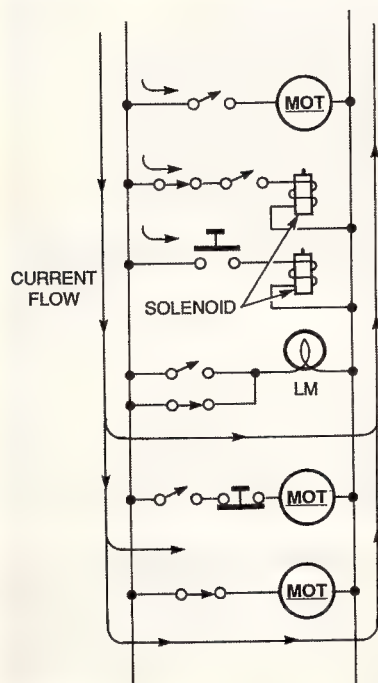

FIG. 4—CONVENTIONAL ELECTRONIC DIAGRAM of a ladder-logic diagram.
tation of process control has evolved. It is called a ladder logic diagram and is named for its resemblance to a ladder. It was derived from its predecessor diagram, called a relay logic diagram. Figure 4 is a typical relay logic diagram. If you follow the ladder from the top down (the normal direction of control flow), you can see how the various switches and relay contacts are evaluated (are they closed?). At the same time the corresponding controlled items, such as motors (M), lights (L), or solenoids (S), are commanded accordingly.
The PLC relay logic diagram (Fig. 4) translates into the PLC ladder logic diagram of Fig. 5. In both diagrams, the left-hand elements correspond to electrical contacts or switches. Normally closed switches, such as limit switches, are converted to parallel lines with a slash through them. Also, the rightmost elements in both illustrations represent the controlled items. When looking at the diagrams, you can see a series of sequential events occurring. It starts at the top left of the ladder. If the first ladder-rung switch on the left is closed, the motor starts. If not, the motor remains idle and you go on to the next rung down. When the system is operating, the PLC checks through the entire ladder from top to bottom. When it is done it simply starts all over again until it gets a stop-process command.